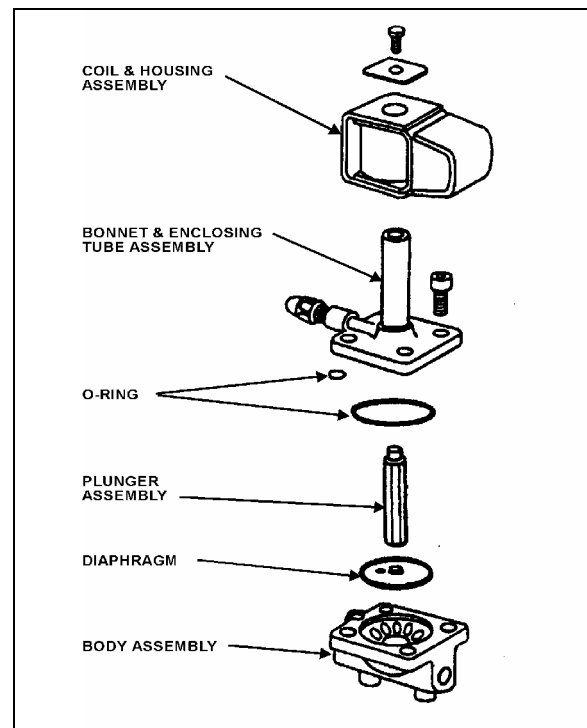

FIGURE 27: REFRIGERANT SOLENOID VALVE 22044
3. Remove the four socket head screws which hold the body and bonnet together (Figure 27).